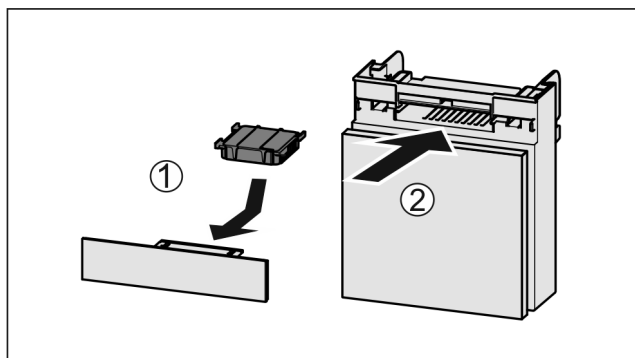

Fig. 165
- Insert the carbon filter as shown in the diagram Fig. 165 (1).
- Push the compartment in Fig. 165 (2).